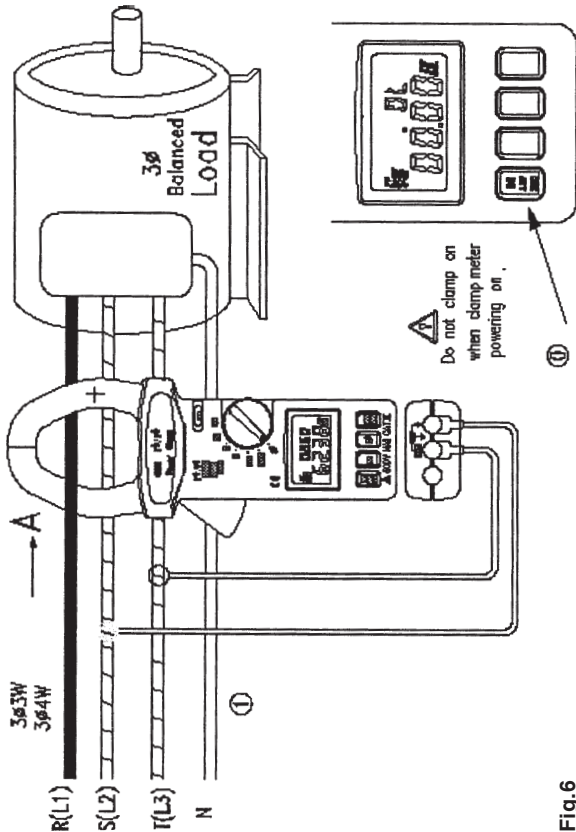

Fig.6
- Set the rotary switch at 3 ϕ (refer to figure 6).